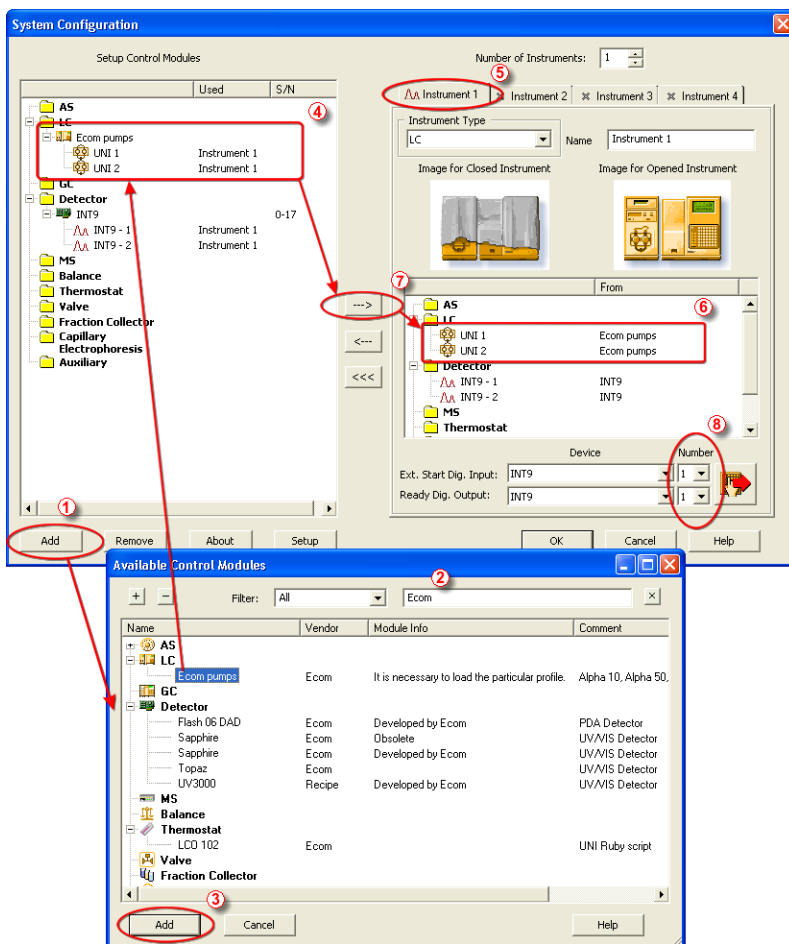

Fig 2: How to add *Ecom pumps*
- Press the **Add** button ① (see Fig 2 on pg 6.) to invoke the **Available Control Modules** dialog.
- You can specify the searching filter ② to simplify the finding of the driver.
- Select the **Ecom pumps** item and press the **Add** ③ button.